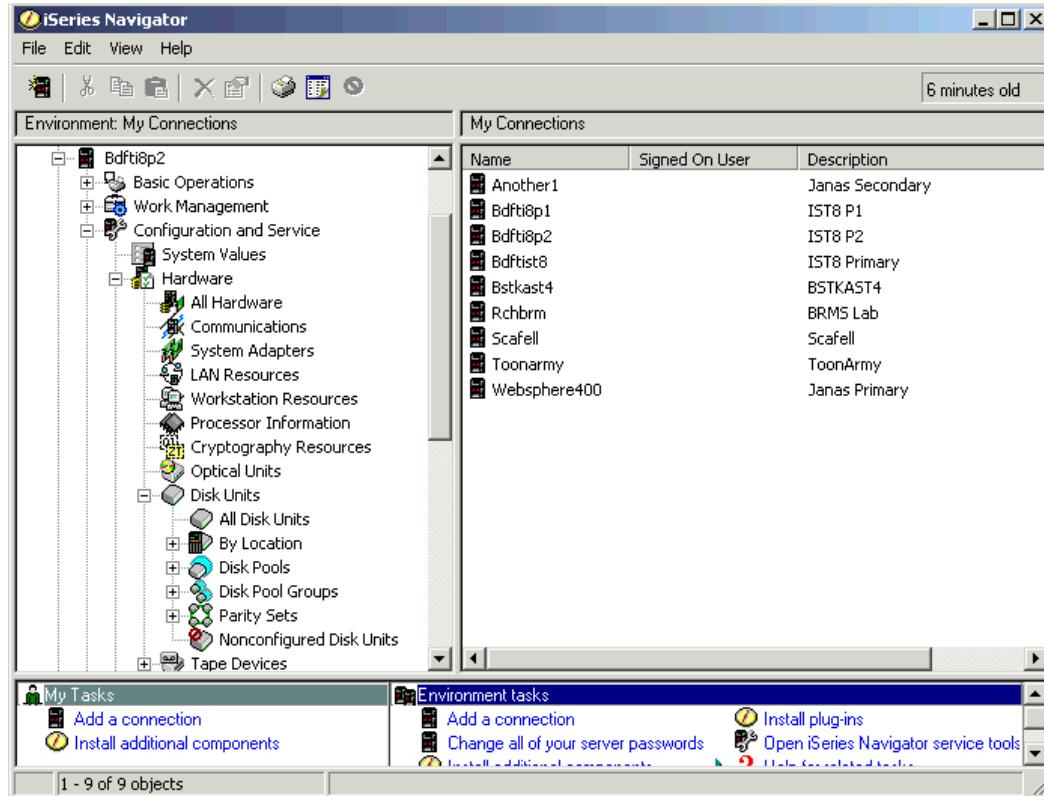

Figure 17-8 System i Navigator Disk Units
3. Expand **Configuration and Service** → **Hardware** → **Disk Units**, as shown in Figure 17-8.